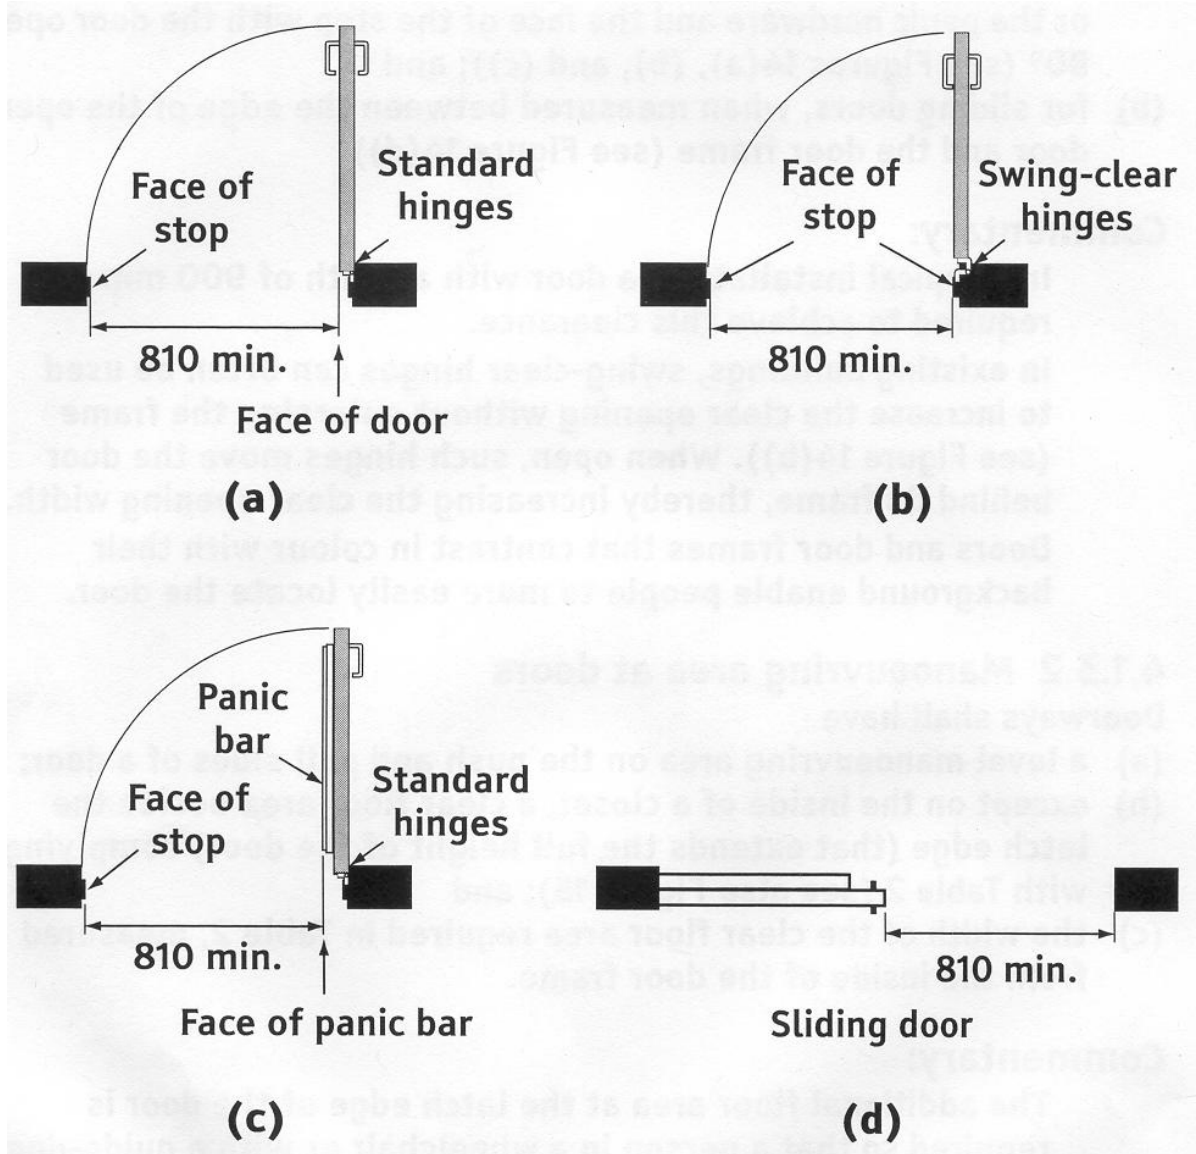

Figure 1 - Clear opening width of doorway
**See Figure 1 on following page.**